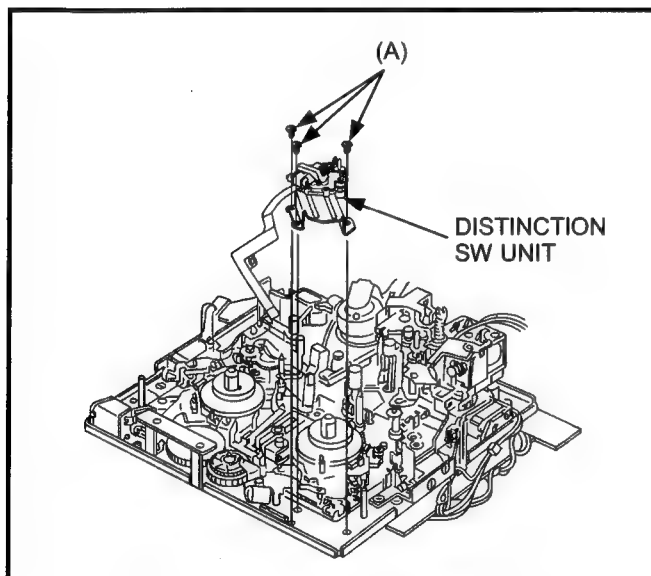

Fig. 6-19-1 Removal of Distinction Switch Unit
6. Unscrew the 3 screws (A) and remove the Distinction SW Unit as shown in Figure 6-19-1.
4. Unscrew the 2 screws (A) and remove the Reel Drive Sensor P.C.Board as shown in Figure 6-19-1.